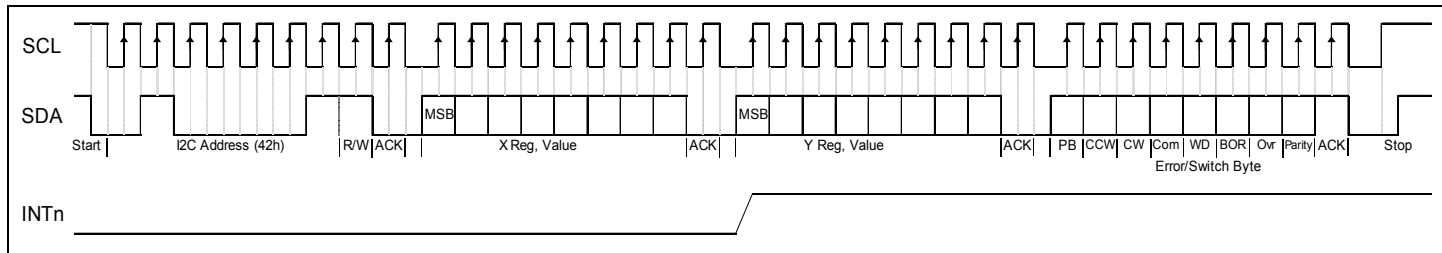

Figure 2 – Read X, Y & Error/Switch Bytes over I2C Bus
**IMPORTANT:** In order to keep X & Y values paired together or "in synch.", X register data should be read in an I2C sequence which reads both the X & Y registers as described in Sec. 3.2.1 and Figure 2.
The Y register should be read in a single I2C sequence that reads the X Register first immediately followed by the Y register as described in Sec. 3.2.1 and Figure 2.
**3.2.1 Read X, Y and Error/Switch Bytes** – When INTn goes low there are new X & Y values available. To read the three bytes the external I2C Master should perform a read sequence of 3 bytes without providing a register address (Joystick always sends X register value followed by Y register value and then the Error/Switch byte for any 3 byte read without a register address). INTn will go high (inactive) at the beginning of the read of the Y value (see Figure 2).
**Important Note:** If a new X & Y value is available before the previous values are read the new values will over-write the old (with the loss of the oldest values). However, in order to keep the X & Y values paired together or “in sync”, it is important that the user read the X, Y and Error/Switch bytes in the a single I2C sequence as shown in Figure 2. This is also the fastest and most efficient use of the I2C bus.